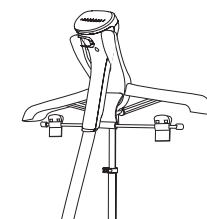

Figure 2
6. Hang the steam nozzle on the clothes hanger attachment. (Figure 2)